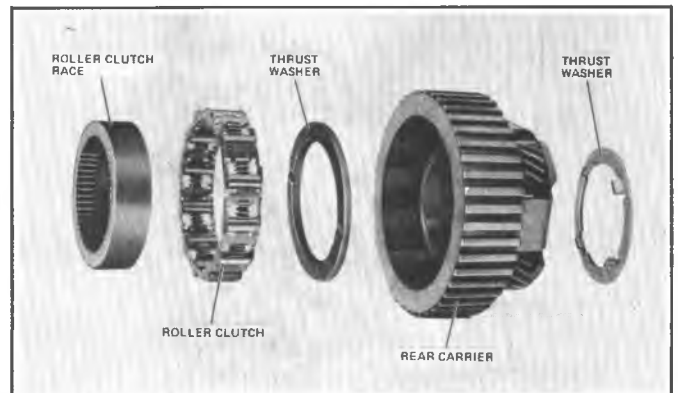

Figure 7A6-91 Roller Clutch and Rear Carrier - Exploded
2. Remove roller clutch assembly and inspect roller bearings, cage and springs for damage or wear (Figure 7A6-91).
3. Remove and inspect rear carrier to clutch thrust washer for signs of scoring or excessive wear (Figure 7A6-91).